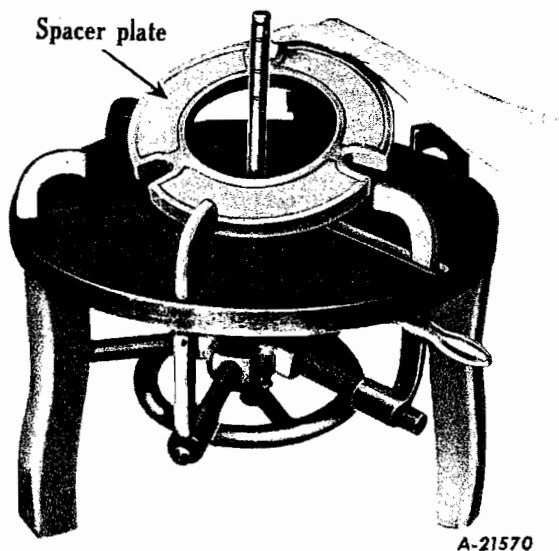
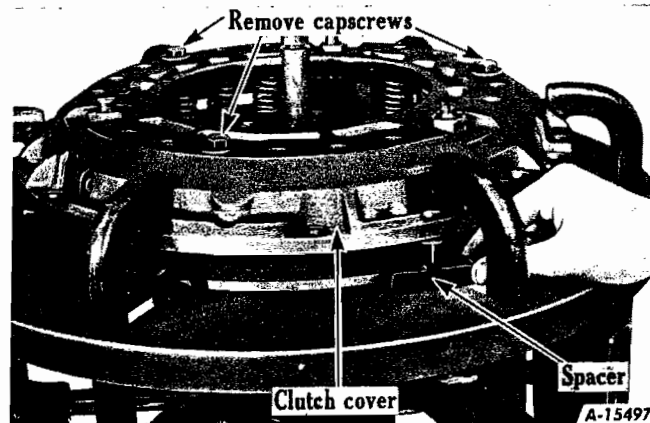
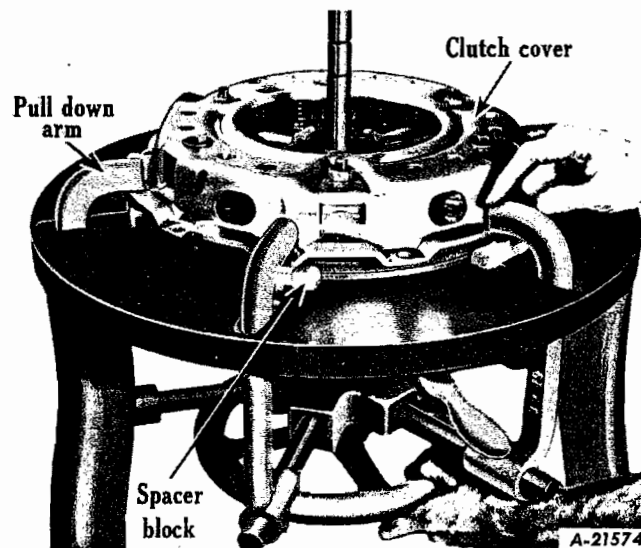
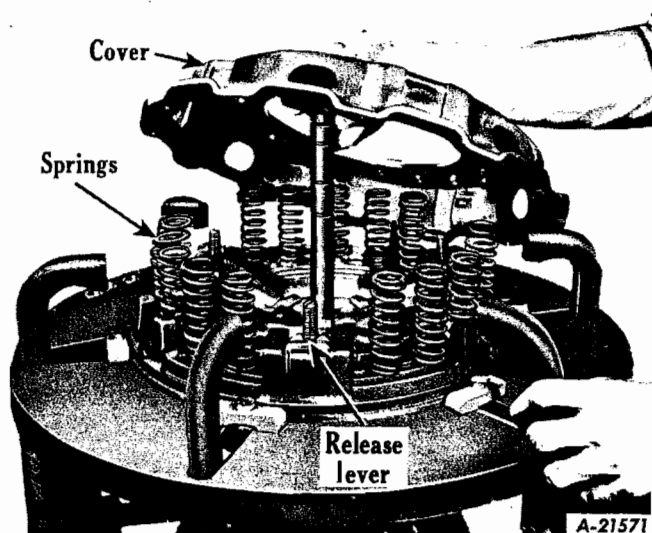

Fig. 10 - Use proper spacer plate, where needed.
Fig. 11 - Spacer blocks are used when pressure plate extends below clutch cover.
Fig. 12 - Draw clutch down with pulldown arms.
Fig. 14 - Clutch cover removed.
(Figs. 10 and 11). Center clutch assembly over space plate. Draw fixture down to surface plate being sure fixture arms are seated so as not to damage cover (Fig. 12). Compress the assembly lightly.
The clutch may then be fully released, after which all parts are readily dismantled for inspection and replacement if necessary. (Fig. 14.)
Place the clutch pressure plate (E) with release levers assembled to plate on top of specified spacer plate (Fig. 10 or Fig. 11). Install pressure springs (F) in position on pressure plate (Fig. 14).
Draw fixture down to clutch cover or back plate (D), Fig. 12, being sure fixture arms are seated so as not to damage cover. The assembly can then be compressed slowly until the top unthreaded portion of each adjusting screw (C) can be guided by hand up through the tapped holes in cover plate (D). At this point care should be taken to see that both pressure plate (E) and cover (D) are lined up correctly, so as to permit free entry of the three drive lugs (M).